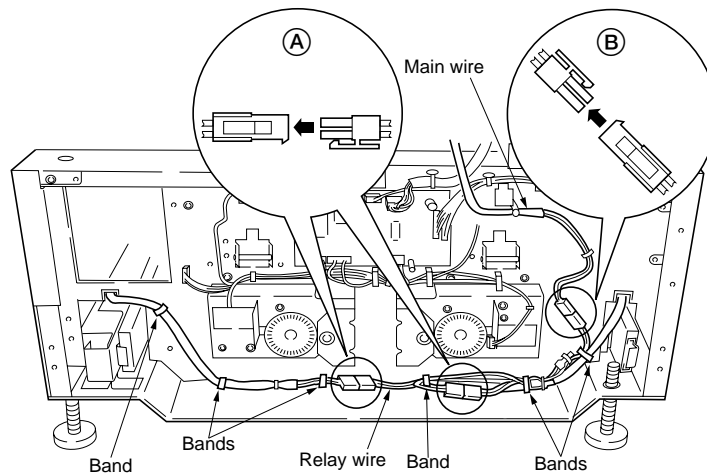

Figure 3-1-58
12. Insert the dehumidifier heater connectors into the relay wire connectors (see (A) in Figure 3-1-58).
13. Insert the main wire connector into the relay wire connector (see (B) in Figure 3-1-58).